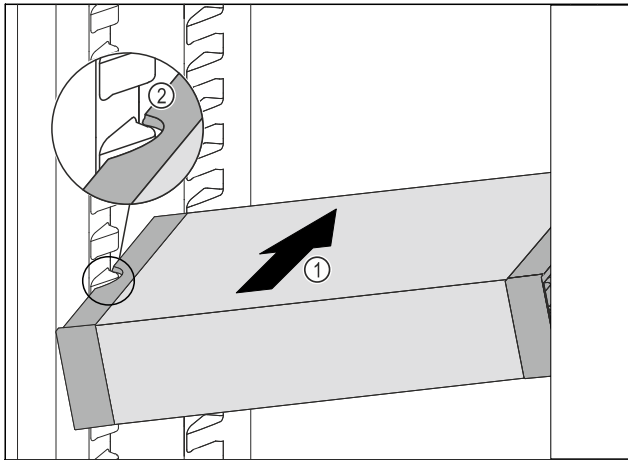

Fig. 86
- Insert the VarioSafe into the fridge section at an angle Fig. 86 (1) until the recesses in the side Fig. 86 (2) of the VarioSafe are at the level of the support rib in the fridge section.